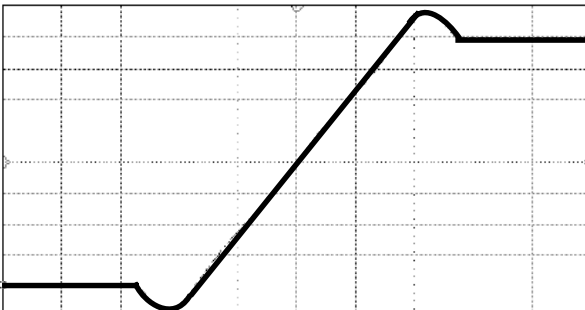

Figure 1-3. Non-Monotonic Transfer Curve Warning
- **Non-Monotonic Transfer Curve.** A warning is displayed if the value specified for Psat is lower than GainCompPower. Refer to Figure 1-3.